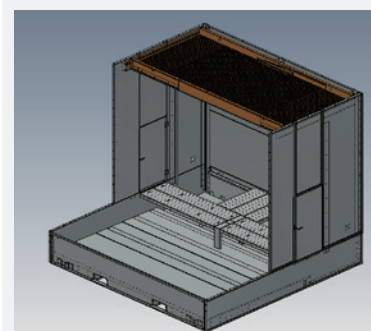

Figure 13a. Internal Full Platform
2. Please firstly check whether it is full platform or sliding platform. See **Figure 13a** for the internal full platform.